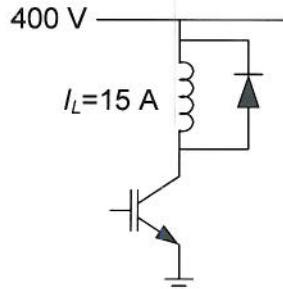

Figure Q5.1 An IGBT used to switch inductive load with diode clamp
- i) Calculate the turn-on and turn-off losses of the IGBT in the circuit of Figure Q5.1.